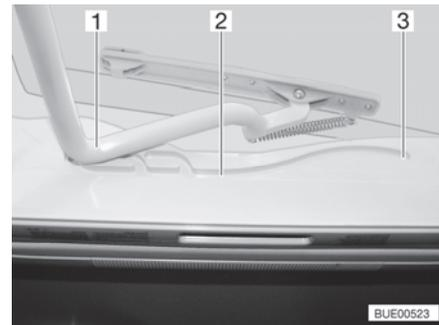

Fig. 55 Guide (Heki skylight)
- Pull the bar (Fig. 55,1) in the guides (Fig. 55,2) to the rearmost position (Fig. 55,3).
- Use both hands to push the bar (Fig. 55,1) slightly upwards.
- Pull the bar in the guides (Fig. 55,2) to the desired position.